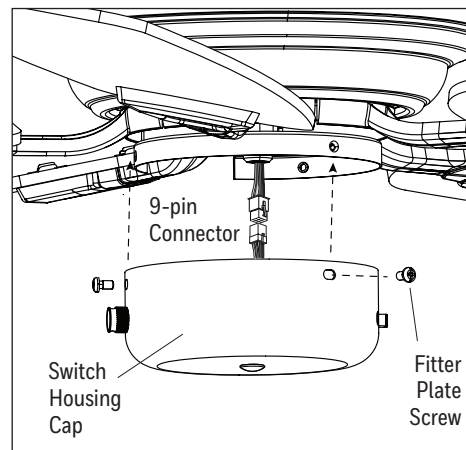

Figure 2.11
11. Remove the three fitter plate screws from the fitter plate. Then connect the 9-pin connector from the fitter plate to the 9-pin connector from the light kit. Attach the switch housing cap to the fitter plate using the three previously removed fitter plate screws (Figure 2.11)